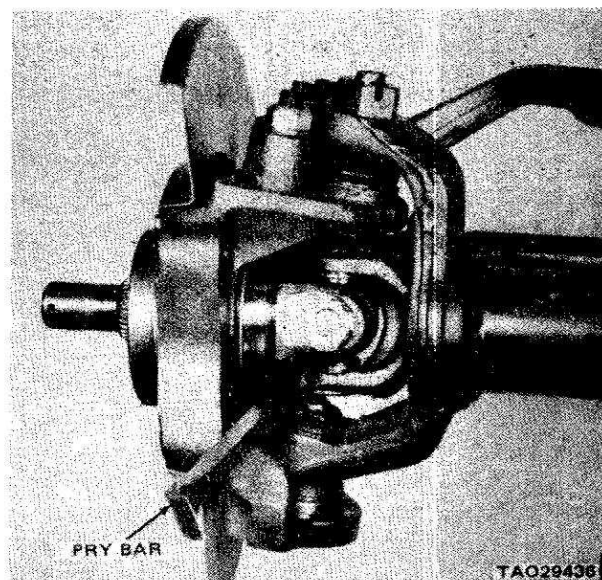

Figure 2-62.4. Insert Pry Bar.
(5) Place a pry bar through the axle shaft U-joint, and wedge it so the shaft is in all the way, as shown in figure 2-62.4.